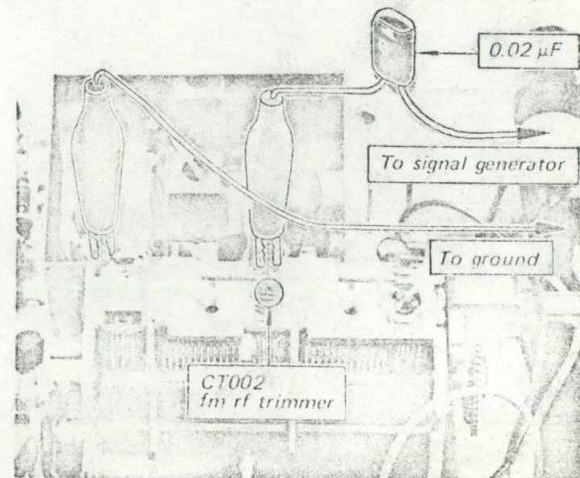

Fig. 3-4. 10.7 MHz signal injection
2. Connect the output cable of the signal generator across CT002 on the fm (a-m) front-end/i-f amp/MPX board through a 0.02 μF coupling capacitor as shown in Fig. 3-4.